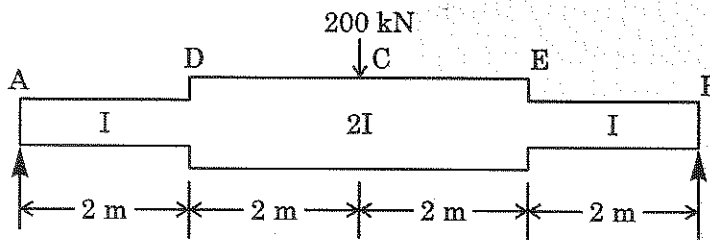

Fig. Q. 13(a)
13. (a) Using the Conjugate beam method, find the mid span deflection of the beam shown in Fig. Q. 13(a). Take $E = 200 \text{ GPa}$ and $I = 200 \times 10^{-4} \text{ m}^4$.